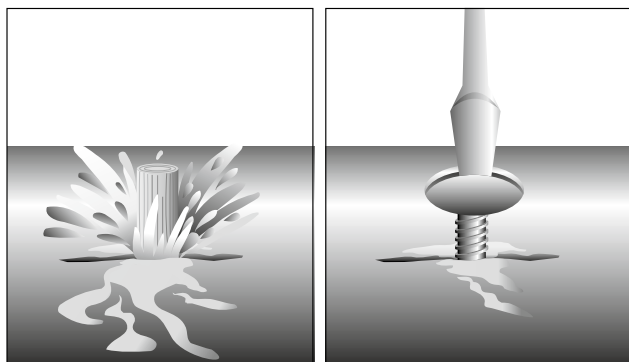

Figure 3. Stop leaks with a wooden plug or screw inserted in area of seepage.
- ✓ Stuffing with cork, wax, rags or any other suitable material (See Figure 3.)
- 2. Severe Erosion:** For severely eroded blades, tack weld expanded metal from the edge to be rebuilt to the existing metal surface. (See Figure 3.)
Figure 3. Expanded metal, used over damaged blades, rebuilds and reinforces the repair area.